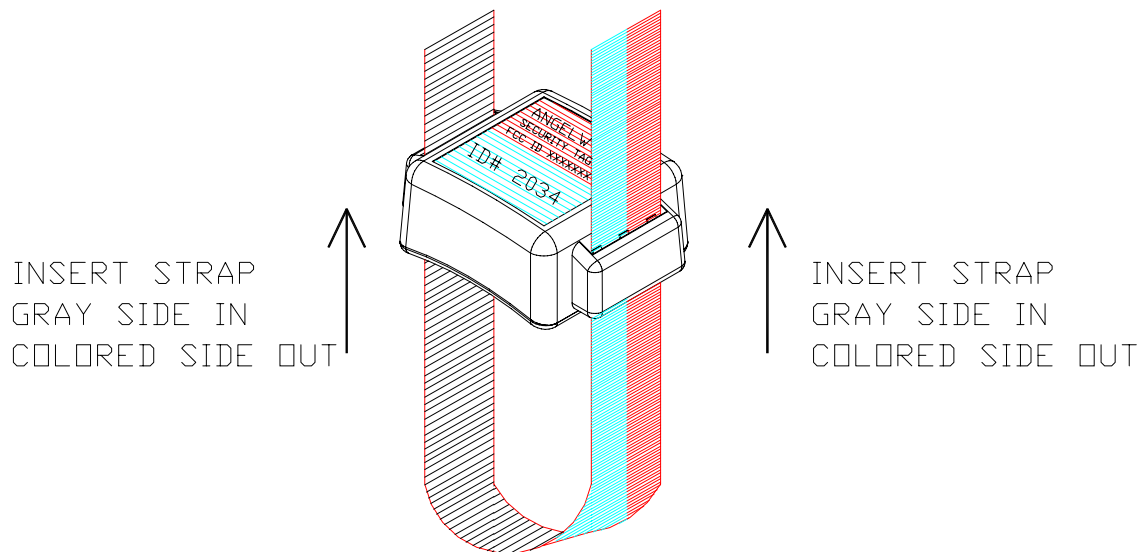

FIGURE 1. CORRECT TAG AND STRAP CONNECTION
- 4) Obtain a clean transmitter tag and a fresh strap. Insert one end of the strap through one of the two slots in the tag. Insert the other end of the strap through the other slot in the tag as shown in figure 1. Do not pull more than an inch through each side. The pink and blue colored side of the strap must be on the outside, with the grey colored conductive side of the strap making contact with the metal spring fingers on the inside of the slots in the tag.